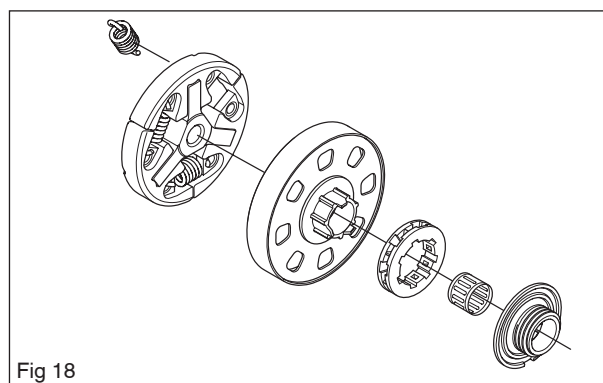

Fig 18
7. Loosen the clutch drum, the drive sprocket, the needle bearing and the pump drive wheel. See figure 18.